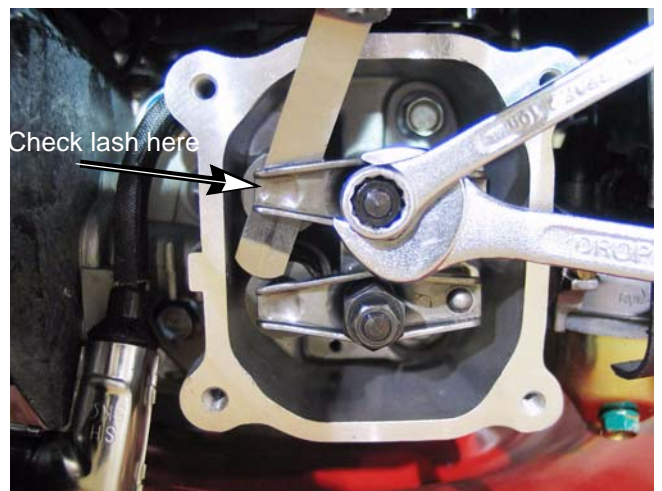

Figure 2.9
8. Valve lash specifications: See Figure 2.9.